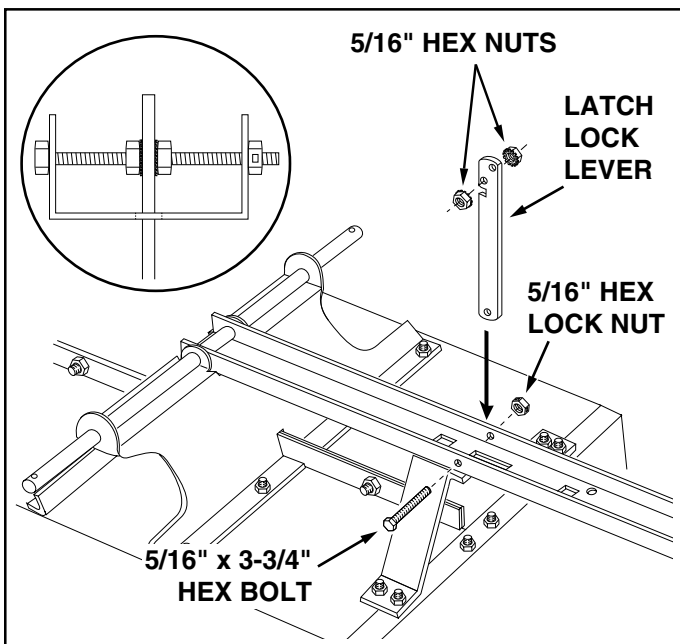

FIGURE 10
- Place the latch lock lever through the slot in the draw bar tongue as shown in figure 10. Assemble the 5/16" x 3-3/4" hex bolt through the tongue, the lever and two 5/16" hex nuts (one on each side of the lever). Assemble the 5/16" hex lock nut onto the end of the bolt and **tighten** so that the bolt can still rotate freely. **Tighten** the two 5/16" hex nuts against the sides of the latch lock lever so that the lever is centered in the slot. See figure 10.